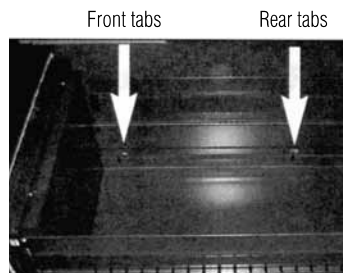

Fig. 8
1. Grasp front of drawer on each side and lift to release front tabs of slides from drawer. (Fig. 8)
2. Place one hand underneath the drawer for support and pull one slide forward to release the rear tab, repeat for other slide. (Fig. 8)